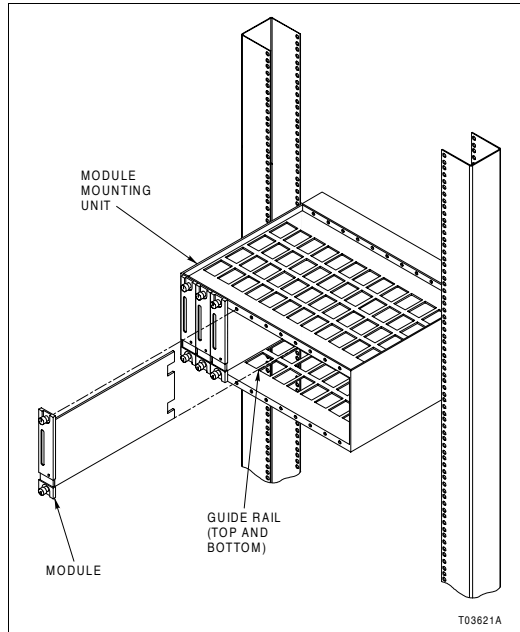

Figure PR3-1. Module Installation
-  2. Align the module with the top and bottom guide rails, then slide the module into the module mounting unit (Fig. PR3-1).